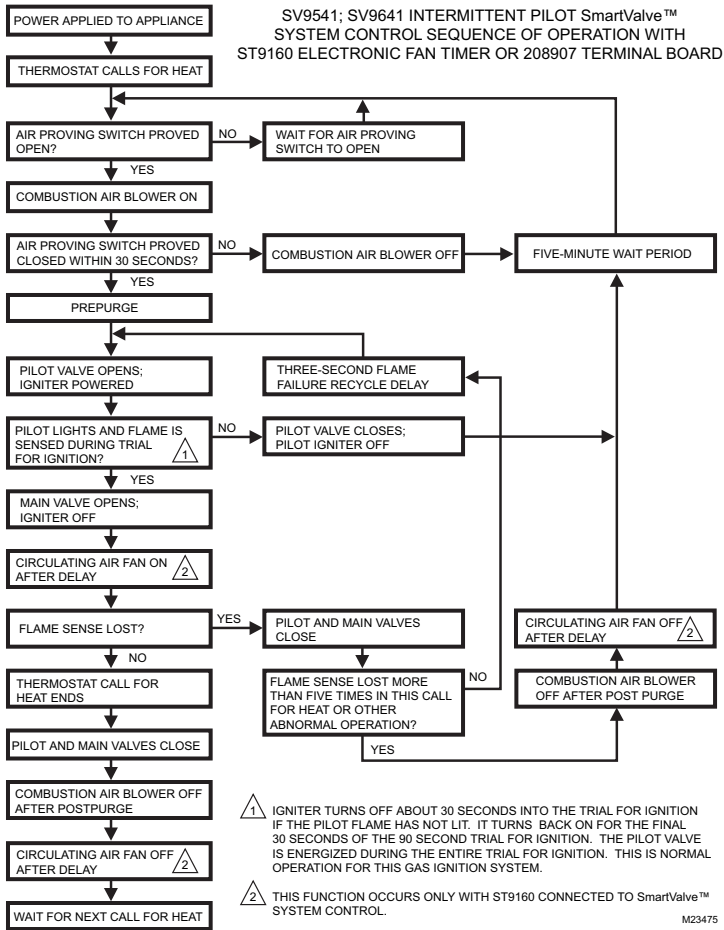
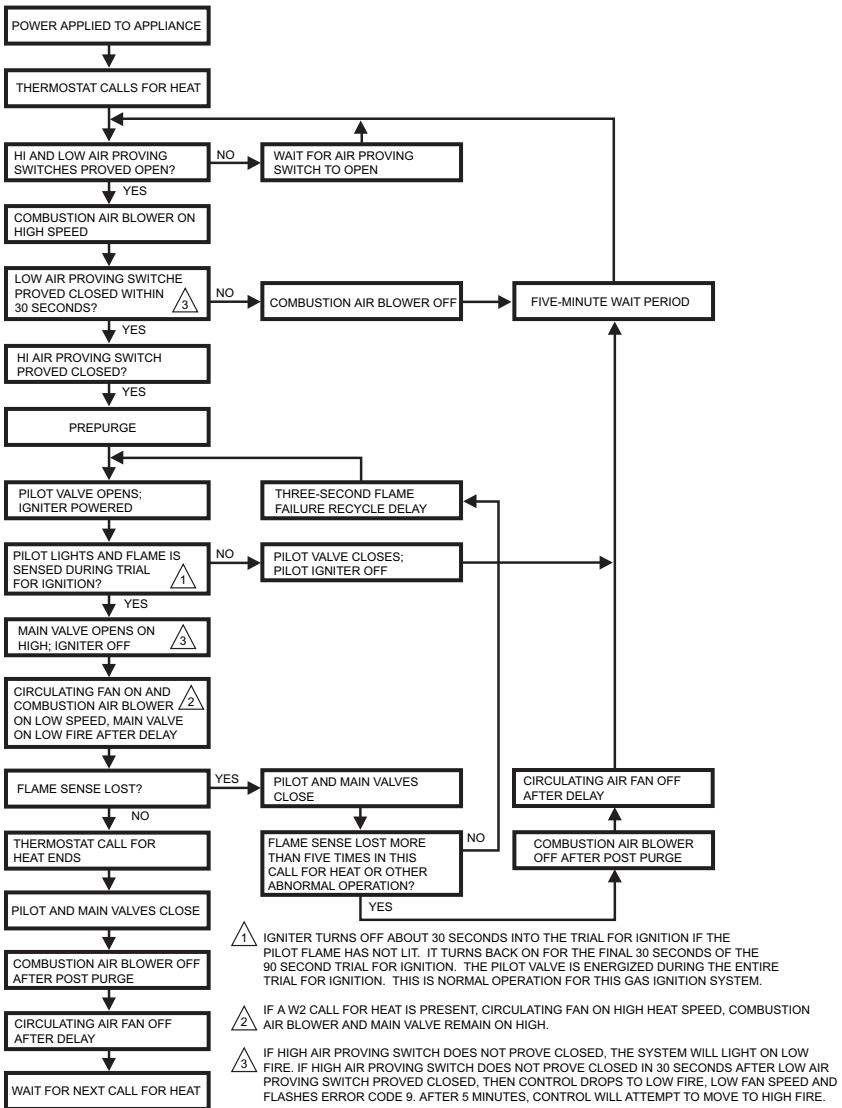

Fig. 13. Sequence of operation for ignition controls with ST9160 fan timer or 208907 terminal board.
Fig. 14. Sequence of operation for two-stage ignition controls with ST9162 fan timer.
2. Follow the sequence of operation as shown in Fig. 13 for ignition controls using an ST9160 Fan Timer or 208907 Terminal Board; see Fig. 14 for two-stage ignition controls with an ST9162 fan timer.
5. Observe the ignition sequence, comparing it to the Sequence of Operation shown in Fig. 13 or 14. Allow the new ignition sequence to proceed until appliance lights or an abnormal or unexpected event is observed.
6. Observe the appliance operation, comparing it to the Sequence of Operation shown in Fig. 13. Allow the ignition sequence to proceed until the appliance lights or an abnormal or unexpected event is observed.